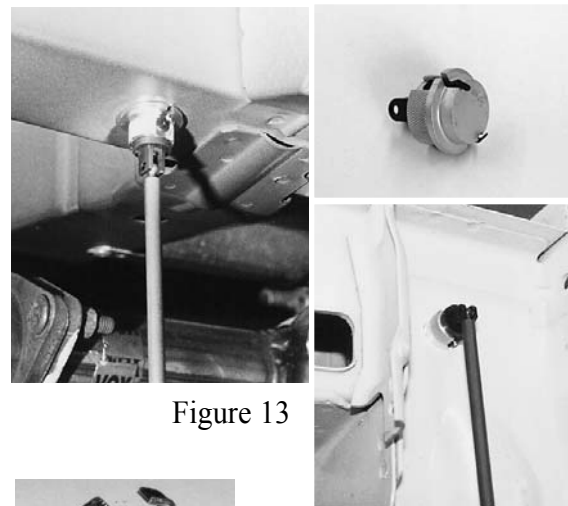

Figure 13
*Aluminum Snap In Attachments* - snap into all types of reference holes. They are made of aluminum and are provided in varying sizes ranging from 10 to 32mm in diameter. (Figure 13 and its insets show an example of an aluminum snap-in attachment.)